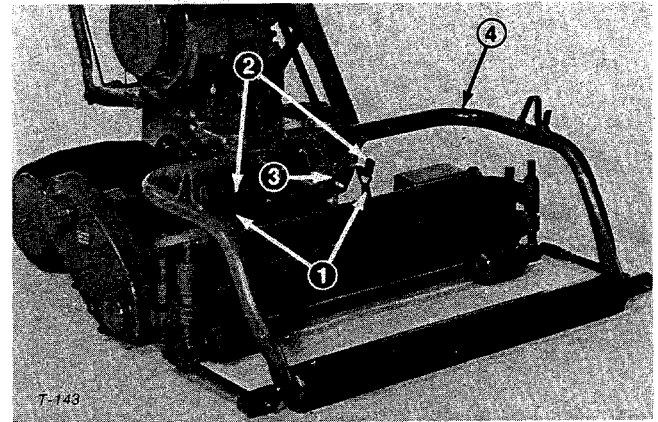

Figure 24
1. Remove grass catcher and unhook the two chains from the support hooks (Fig. 24).
3. Install the chains onto the support hooks (Fig. 24).
1. Remove grass catcher and unhook chains from support hooks (Fig. 24).
2. Remove cotter pin from yoke pivot and slide yoke assembly off pivot (Fig. 24).